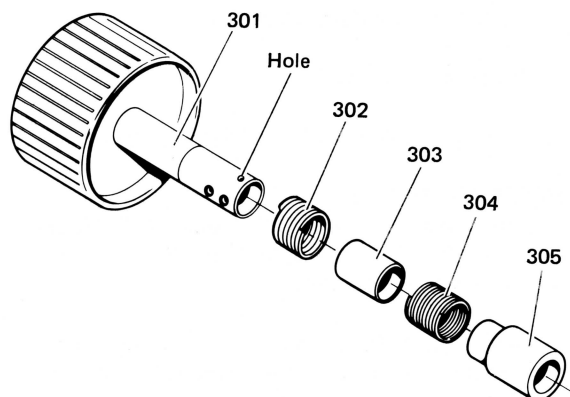

Figure 1
2. Insert the extension of the override spring (22-302) into the hole in the new platen knob shaft (Figure 1).
3. Lubricate the inside of the springs (22-302/304) with #23 grease and install the new parts on the platen shaft (Figure 1).